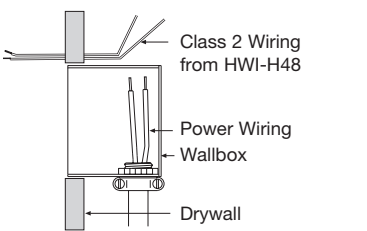

Figure 2: Class 2 Wire Installation
- 3. Pull Class 2 wires from outside of the wallbox through the notch in the drywall — do not run the Class 2 wires inside the wallbox (see Figure 2).